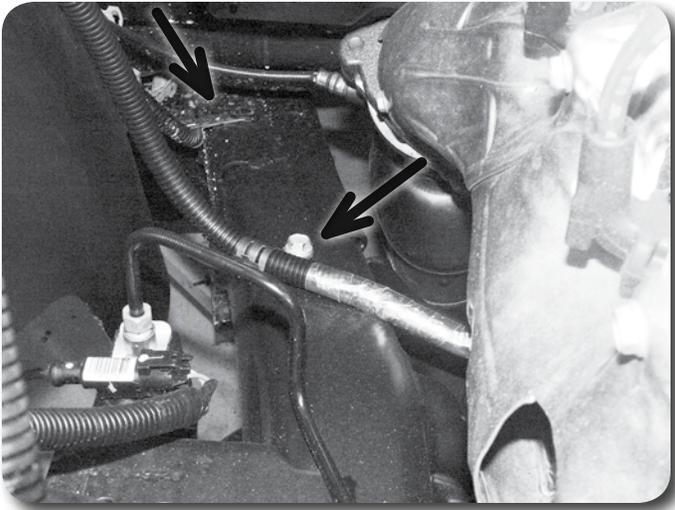

Figure 11
16. Disconnect the starter power wire and the O2 sensor wire from the top of the passenger's side frame rail near the rear of the wheel well opening Figure 11. These will be reattached after the body is lifted.